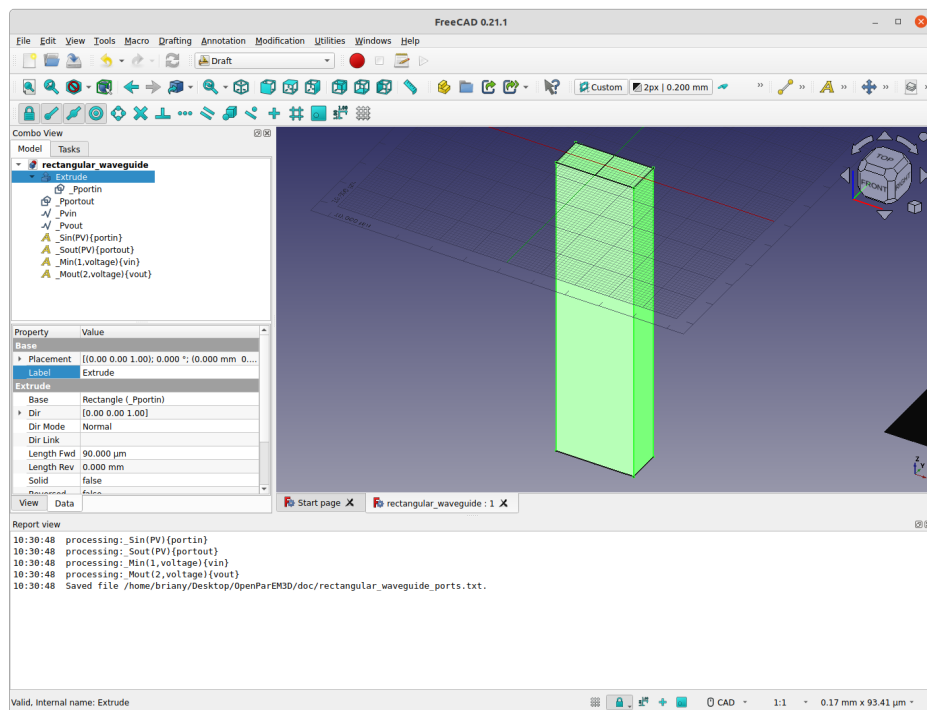

Figure 7: Screenshot of the completed drawing with exported ports description file.
- A screen shot of the completed drawing with a successfully exported ports description file is shown in Fig. 7.